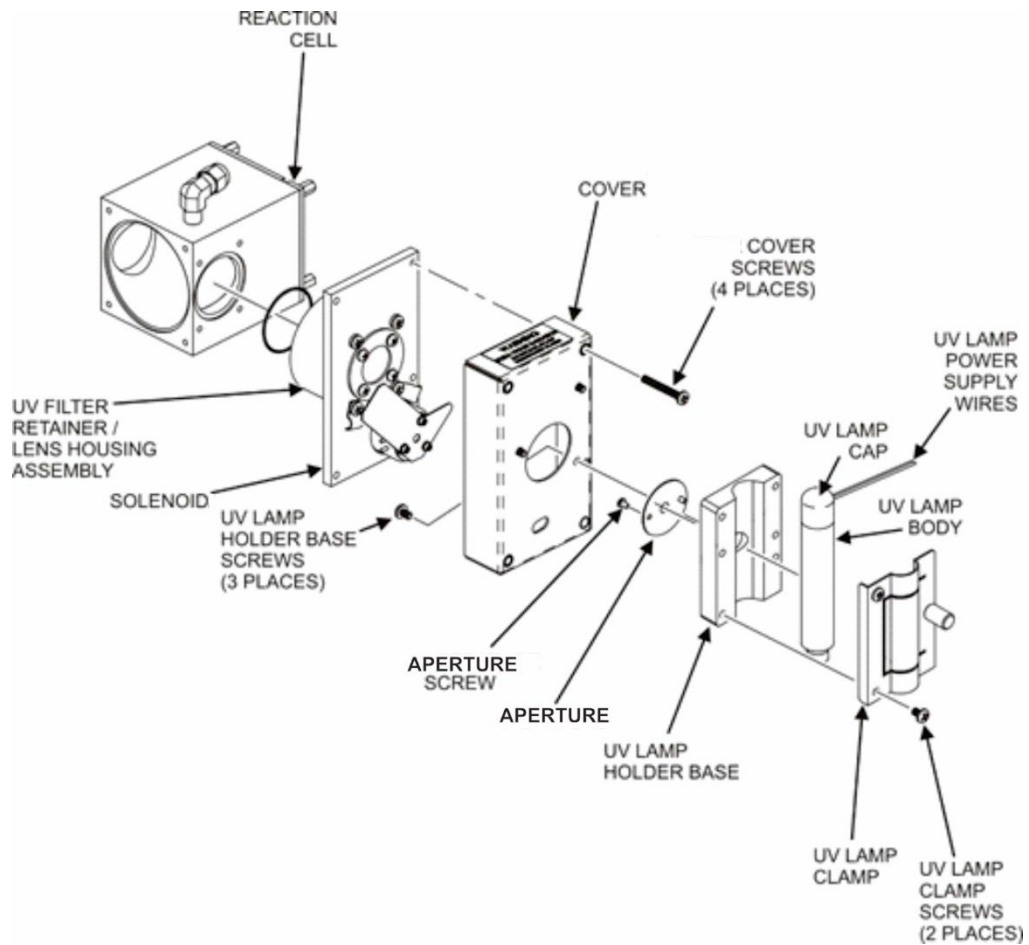
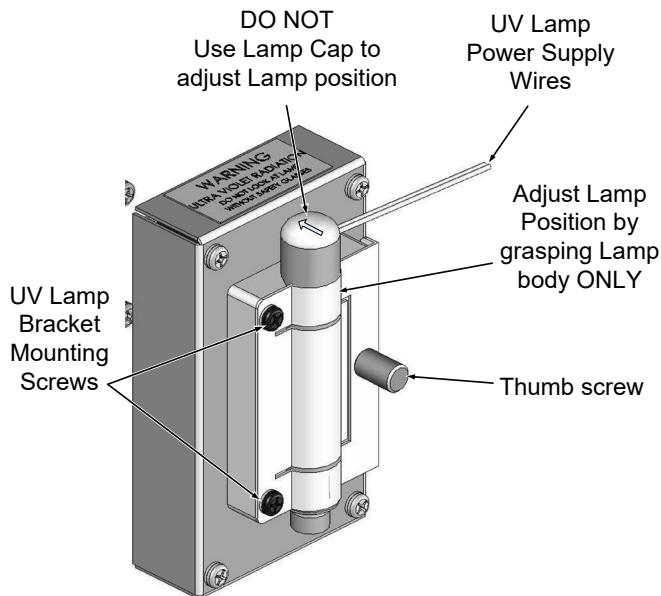

Figure 5-31. Lamp Assembly
Figure 5-32. UV Lamp Adjustment
2. Slightly loosen the large brass thumbscrew located on the lamp housing (refer to Figure 5-32) so that the lamp can be moved.
DO NOT grasp the UV lamp by its cap when changing its position - always grasp the main body of the lamp (refer to Figure 5-31). Inattention to this detail could twist and potentially disconnect the lamp's power supply wires.
4. Loosen, but do not remove the two UV lamp bracket screws and the large brass thumbscrew located (refer to Figure 5-31 and Figure 5-32) on the housing so that the lamp can be moved.
DO NOT grasp the UV lamp by its cap when changing its position - always grasp the main body of the lamp (refer to Figure 5-31) Inattention to this detail could twist and potentially disconnect the lamp's power supply wires.